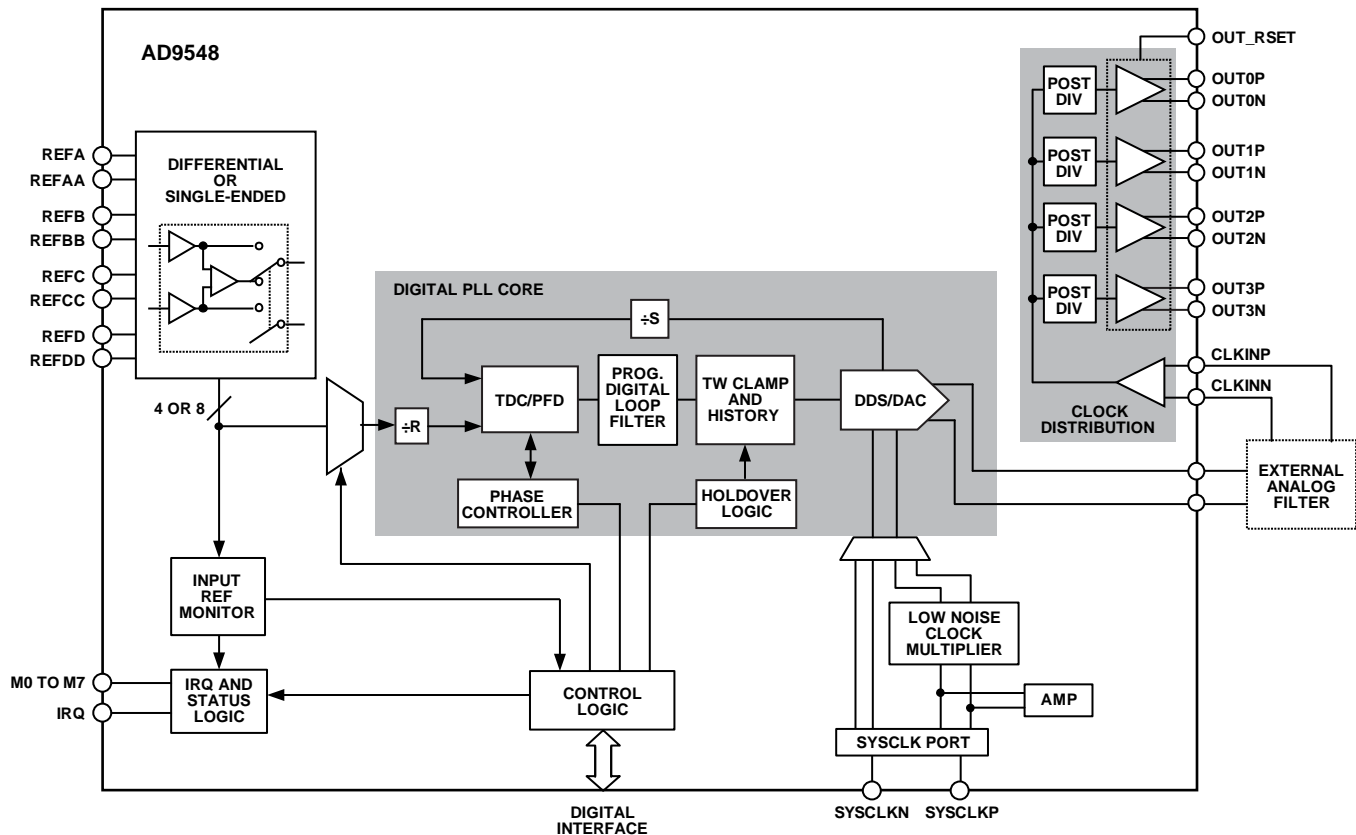

Figure 34. Detailed Block Diagram
The device offers manual and automatic reference switchover capability if the active reference is degraded or fails completely. A direct digital synthesizer (DDS) and integrated DAC constitute a digitally controlled oscillator (DCO). The DCO output is a sinusoidal signal (450 MHz maximum) at a frequency determined by the active reference frequency and the programmed values of the reference prescaler (R) and feedback divider (S). Although not explicitly shown in Figure 34, the S-divider has both an integer and fractional component, which is similar to a fractional-N synthesizer.